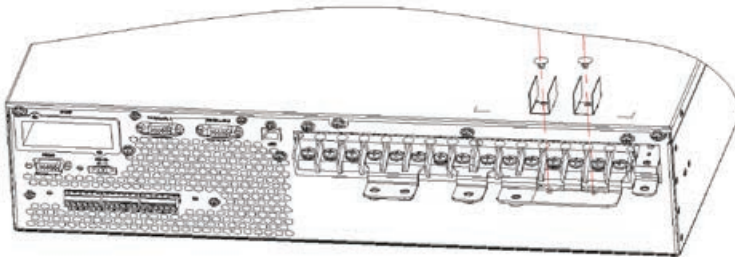

Fig. 3-16 Fix insulation film
3. In Figure 3-16, mounter the insulating film (accessory) to the No.6 copper bar, and fixed in the corresponding position with the plastic rivet, as shown in figure 3-27